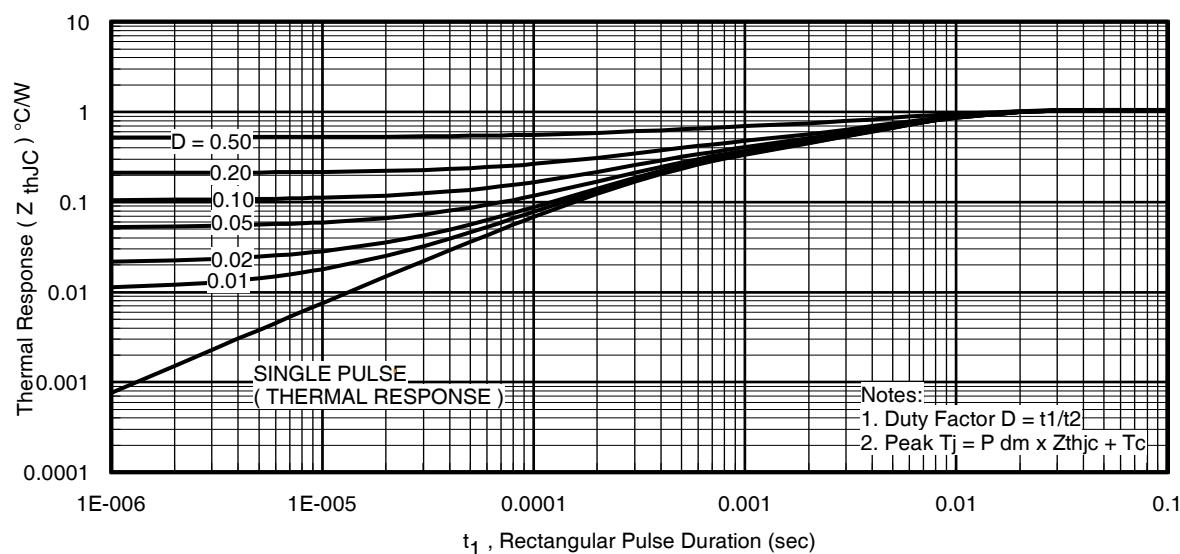
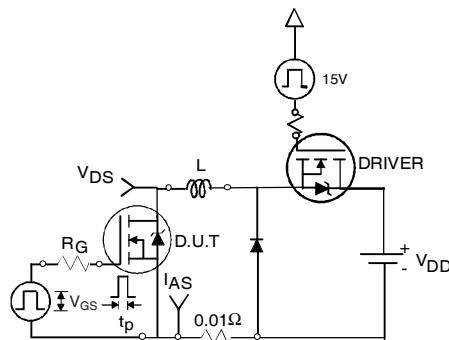

Fig 11. Maximum Effective Transient Thermal Impedance, Junction-to-Case
Fig 17a. Unclamped Inductive Test Circuit
- ① Repetitive rating; pulse width limited by max. junction temperature. (See fig. 11).
- ② Limited by $T_{J\text{max}}$, starting $T_J = 25^\circ\text{C}$, $L = 0.399\text{mH}$ $R_G = 25\Omega$, $I_{AS} = -37\text{A}$, $V_{GS} = -10V$. Part not recommended for use above this value.
- ③ Pulse width $\leq 1.0\text{ms}$; duty cycle $\leq 2\%$.
- ④ $C_{oss \text{ eff.}}$ is a fixed capacitance that gives the same charging time as C_{oss} while V_{DS} is rising from 0 to 80% V_{DSS} .
- ⑤ Limited by $T_{J\text{max}}$, see Fig.17a, 17b, 14, 15 for typical repetitive avalanche performance.
- ⑥ This value determined from sample failure population. 100% tested to this value in production.
- ⑦ This is only applied to TO-220AB package.
- ⑧ R_θ is measured at T_J approximately 90°C
3. Equation below based on circuit and waveforms shown in Figures 17a, 17b.
$Z_{thJC}(D, t_{av}) = \text{Transient thermal resistance, see figure 11)$